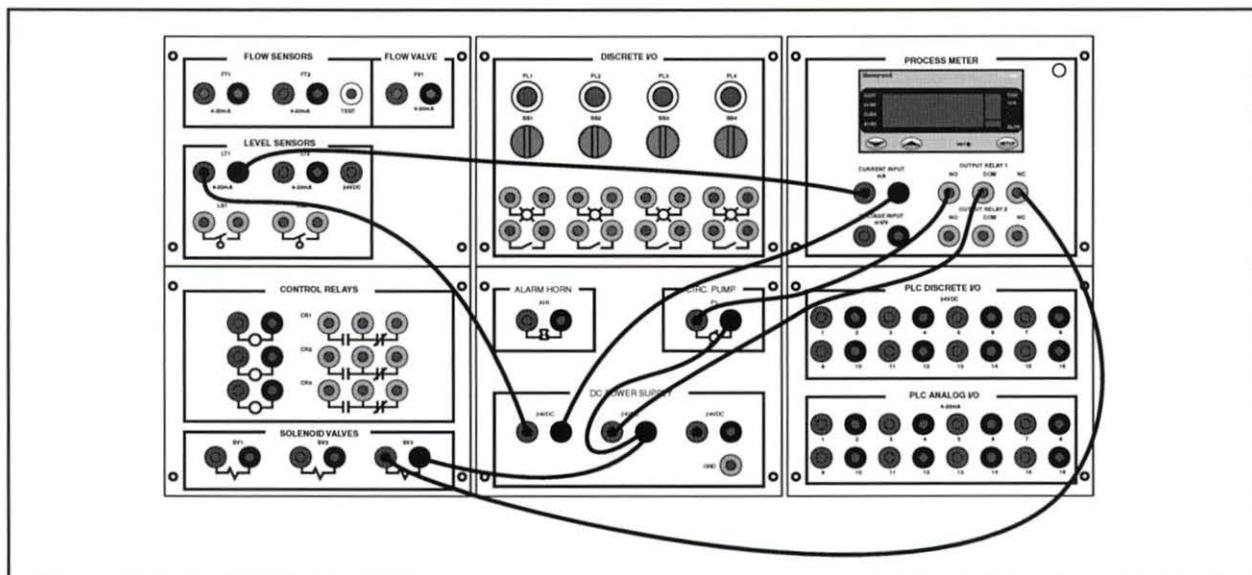

Figure 33. Circuit for On/Off Level Control Using a Low Level Alarm
- F. Connect the circuit shown in figure 33.